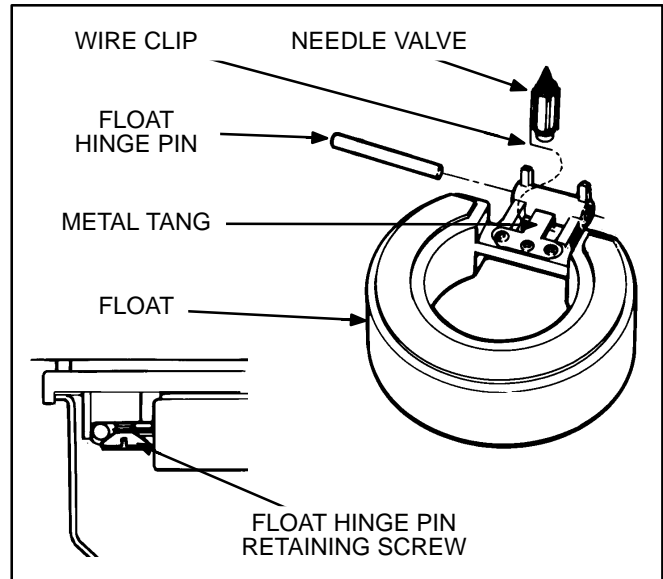

FIGURE 24. FLOAT INSTALLATION (GASOLINE)
2. See Figure 24. Turn the carburetor upside down and install the new needle valve, float, float hinge pin and fuel bowl gasket in the repair kit. Make sure the wire clip properly engages the groove around the end of the needle valve and loops around the metal tang of the float. (The clip pulls down on the needle valve when the float level drops, breaking the needle loose if it is stuck.) Check to see that the float moves freely without binding.